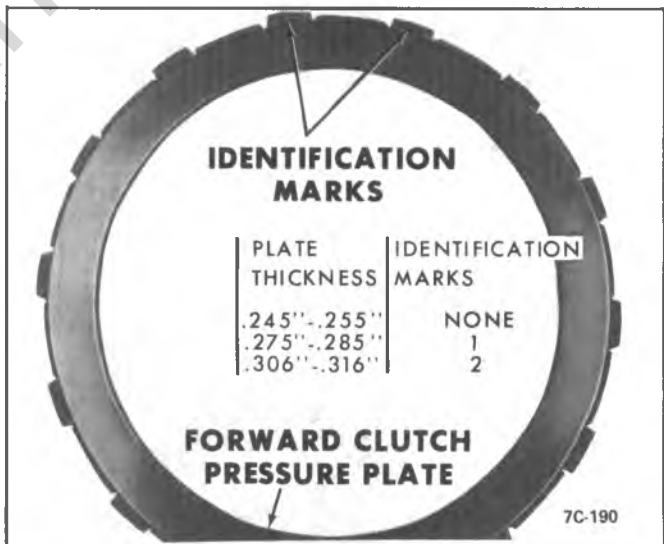

Figure 7A3-101 Pressure Plate Selection
3. Install spring retainer and springs. Compress spring retainer with an arbor press or ram press. See Figure 7A3-92.